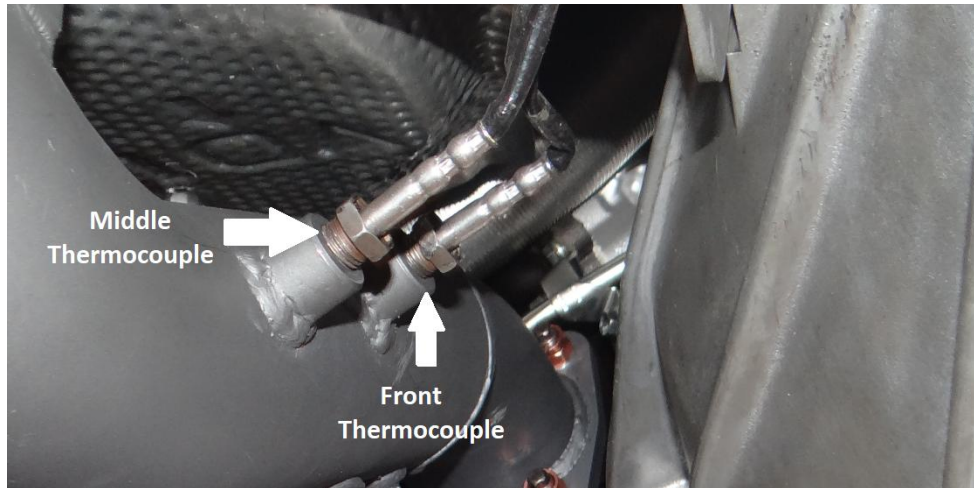

Figure 4.
18. Fit the previously removed thermocouples to the engine pipe. Refer Figure 4.